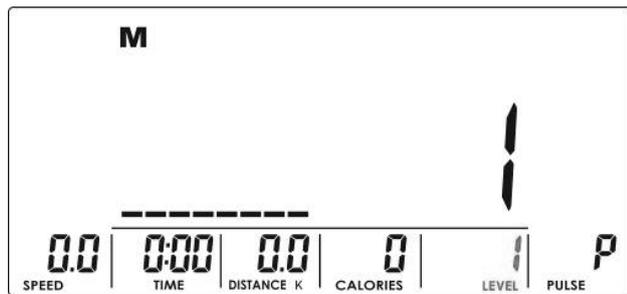
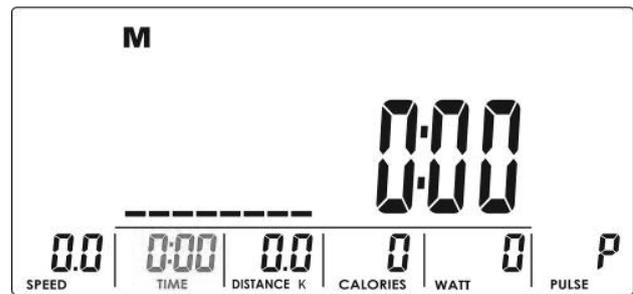

Figure 19
Figure 20
- (1) Press BODY FAT in the STOP mode to start the measuring of your body fat.
- (2) The console displays UX (fig. 19) and starts to measure (fig. 20 to 21).